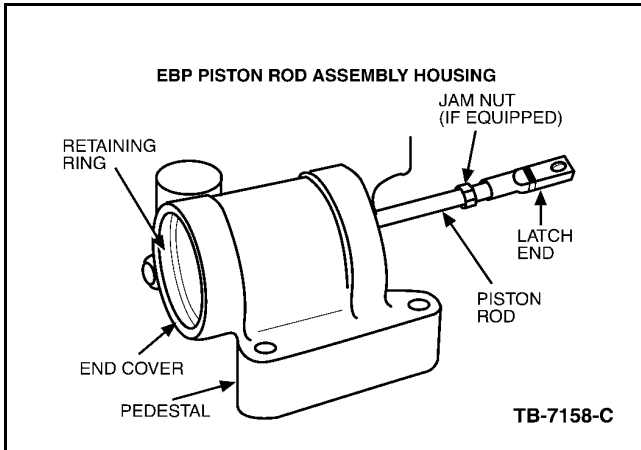

Figure 3 - Article 04-20-2
4. Unscrew the latch end (and jam nut, if equipped) from the piston rod. Hold the piston rod securely while unscrewing the latch end because it is crimped to the piston rod (Figure 3).